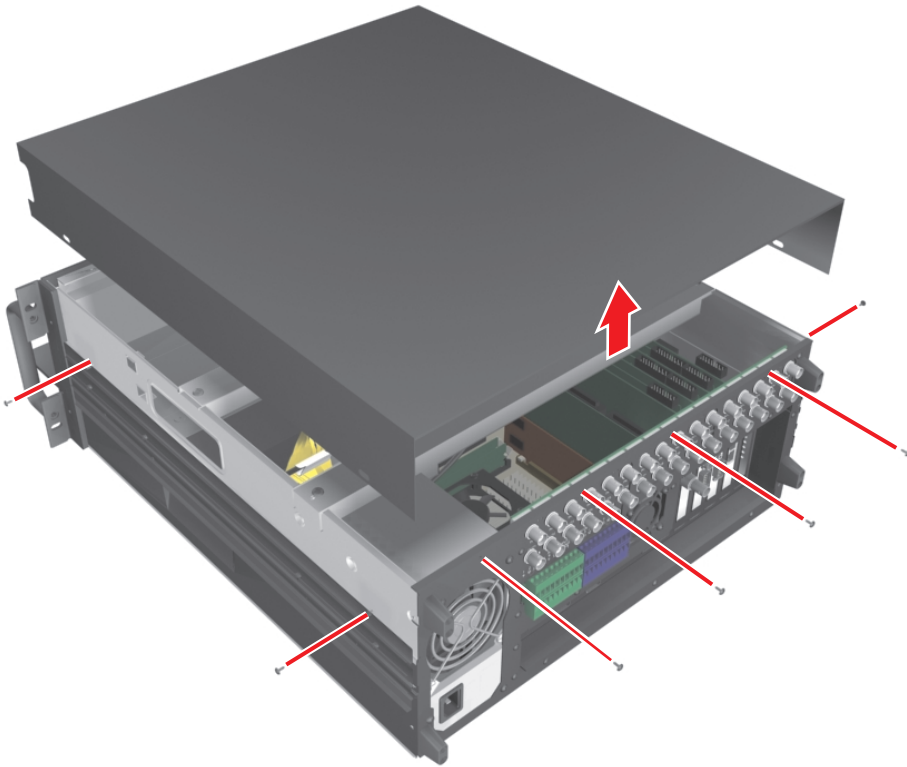

Figure 4. Removing Chassis Cover
- Remove the two top-most screws on the left and right side panels of the DX8000. Refer to Figure 4.
- Remove the four silver-colored screws fastening the cover to the rear of the unit. These screws are the ones closest to the top of the unit. Refer to Figure 4.